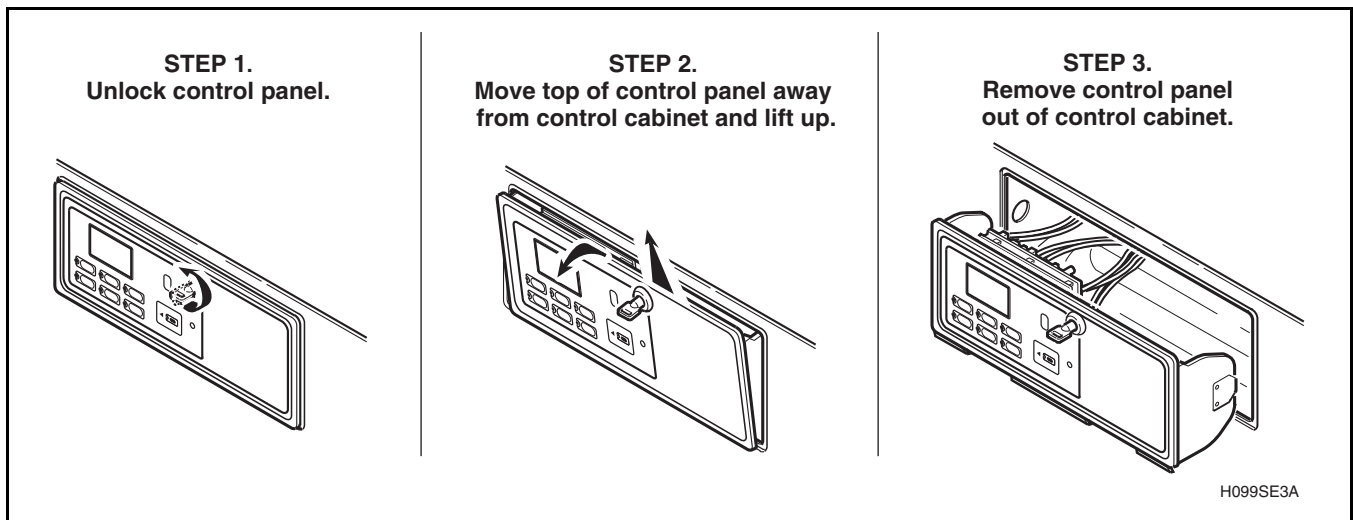

Figure 14
- Unlock control panel. Refer to *Figure 14, Step 1*.
- Pull top of control panel away from control cabinet far enough to allow lifting control panel up and off the rail support of the control cabinet. Refer to *Figure 14, Step 2*.
- Remove control panel away from control cabinet as far as wires permit. Refer to *Figure 14, Step 3*.